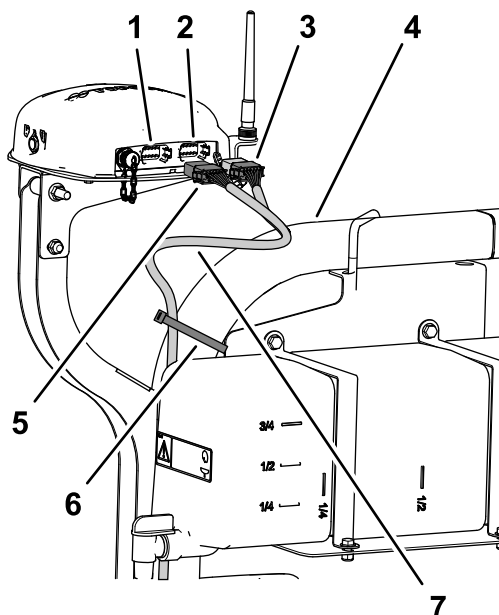

Figure 197
2. Route the 390 cm (153-1/2 inch) branch of the data harness along the right ROPS tube with the 12-socket connector (gray) and 12-socket connector (black) up toward the navigation receiver (Figure 197).
- Secure the 390 cm (153-1/2 inch) branch of the data harness to the right ROPS tube with 2 cable ties as shown in Figure 197.